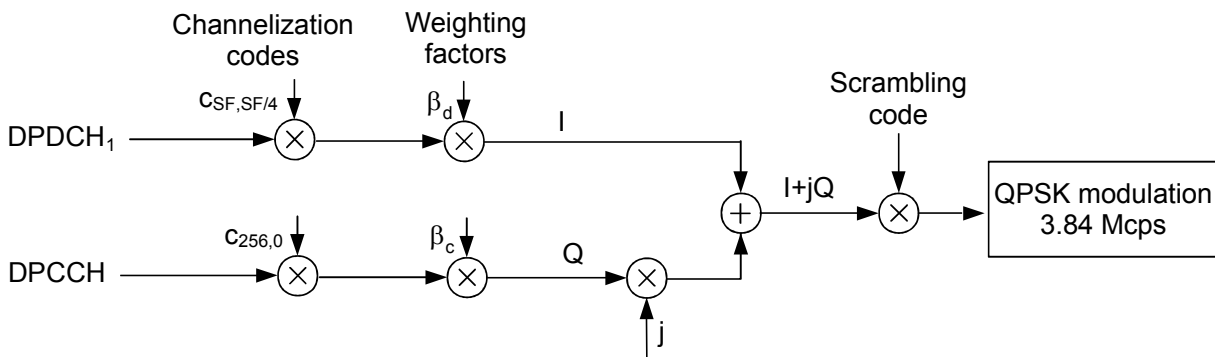
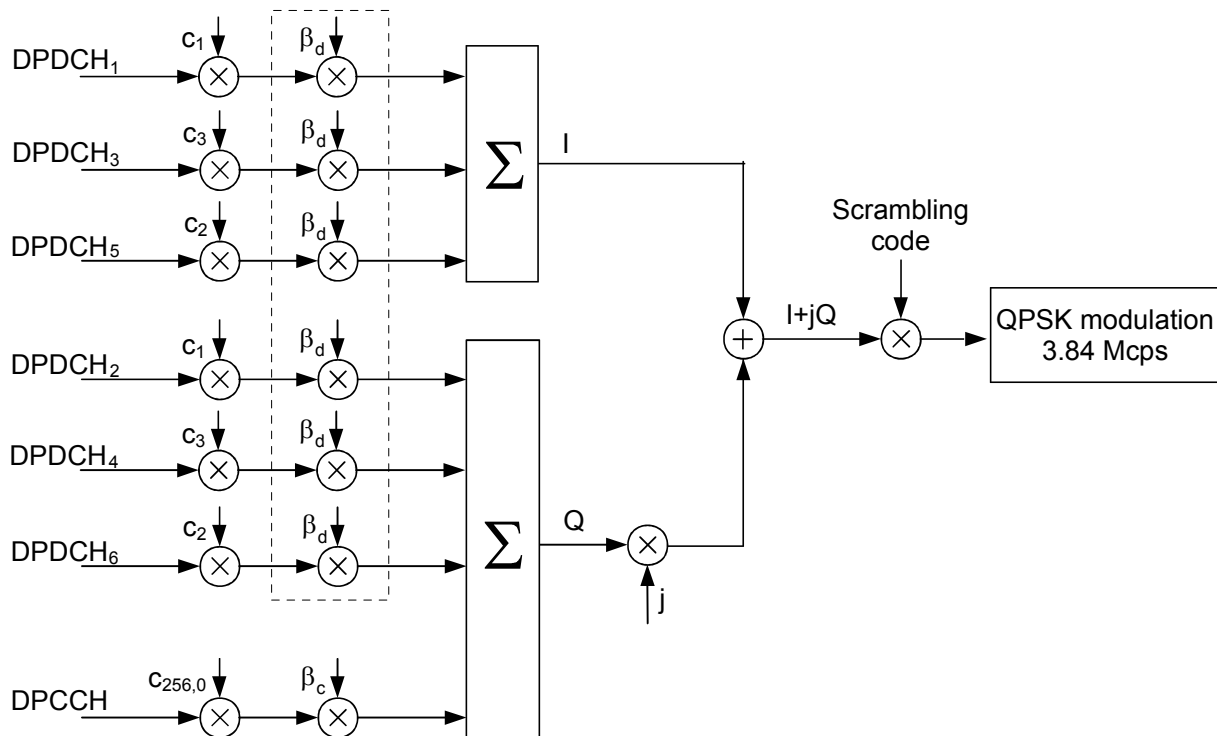

Fig. 4-15 Uplink WCDMA signal with up to 1 data channel
Fig. 4-16 Uplink WCDMA signal with up to 6 data channels
- The *QPSK²* mode is used to measure the QPSK modulated signal with a chip rate of 3.84 Mcps. Examples of valid signals are a single DPCCCH signal, a single DPDCH signal or a combination of a DPCCCH with one DPDCH (see Fig. 4-15 on p. 4.42) and equal gain factors: The DPCCCH and the DPDCH are summed to a complex-valued signal with a constellation diagram that is still QPSK-like). The channelization code, scrambling code and the symbol rate are irrelevant to the measurement. This mode is faster than the *WCDMA* mode and is useful to adjust the modulator of the UE transmitter (see description in section QPSK Measurements \(Modulation – QPSK\) on p. 4.44).
The actual modulation vector of the output signal of the UE under test is measured over a complete slot and stored as Z , using a matched filter (an RRC filter with a roll-off $\alpha = 0.22$ and a bandwidth equal to the chip rate). A reference signal R with variable timing, RF carrier frequency f_{Carr} and power (gain factors; see Fig. 4-15 on p. 4.42 and Fig. 4-16 on p. 4.43), is constructed mathematically and filtered by the same matched filter.
The WCDMA signal is composed of one control channel (DPCCH) and n data channels (DPDCH), where n is between 0 and 6. The symbols of all channels are first spread to the chip rate by the channelization codes c , weighted by gain factors β and summed to form a complex-valued stream of chips. This complex-valued signal is then scrambled by a long or short scrambling code and finally QPSK modulated. For a WCDMA signal consisting of the DPCCH plus one DPDCH, the different spreading and modulation stages are shown in see Fig. 4-15 below.
According to the standard, the DPCCH is always spread with code $c_{256,0}$, corresponding to a symbol rate of 15 kbps. In the signal configuration of Fig. 4-15, where one DPDCH is transmitted, spreading factors of 4, 8, 16, 32, 64, 128 or 256 may be used, and the corresponding DPDCH channelization codes are $c_{SF,SF/4}$. The CMU sets the spreading factor implicitly as the symbol rate for the first DPDCH can be selected. With several DPDCHs, $DPDCH_n$ is spread by $c_{4,k}$, where $k = 1$ if $n \in \{1, 2\}$, $k = 3$ if $n \in \{3, 4\}$, and $k = 2$ if $n \in \{5, 6\}$. The corresponding signal configuration is shown in Fig. 4-16 below.